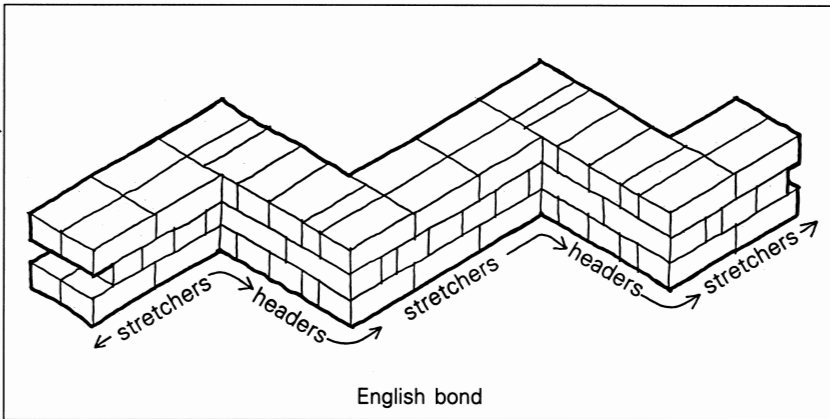

Figure 8.13 When the wall changes direction so the bond changes, i.e. stretchers to headers.
7. Where a wall changes direction, the face bond in the same course changes. (See figure 8.13)